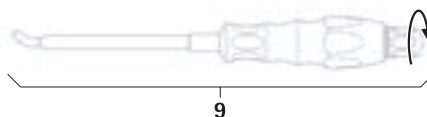

Fig. 15
- Mount rod insertion instrument **9**, see Fig. 15.